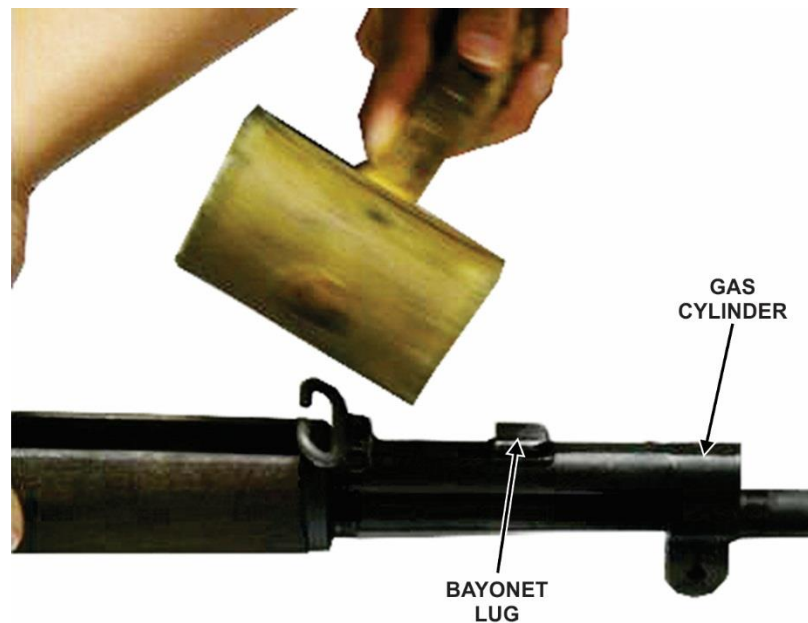
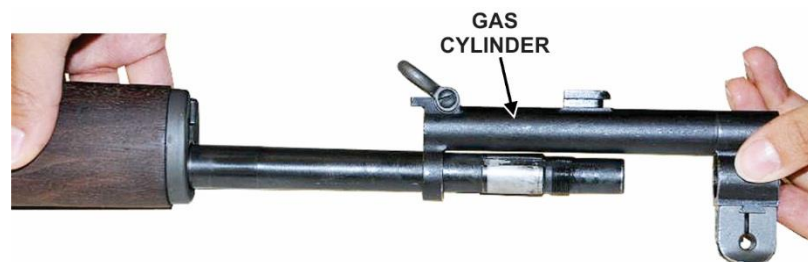

Figure 26. Loosen gas cylinder with wooden mallet
Figure 27. Gas cylinder removal
- 9) Loosen the gas cylinder by tapping lightly toward the muzzle on the bayonet lug with a wooden mallet or similar soft object (fig 26) and remove the gas cylinder (fig 27).